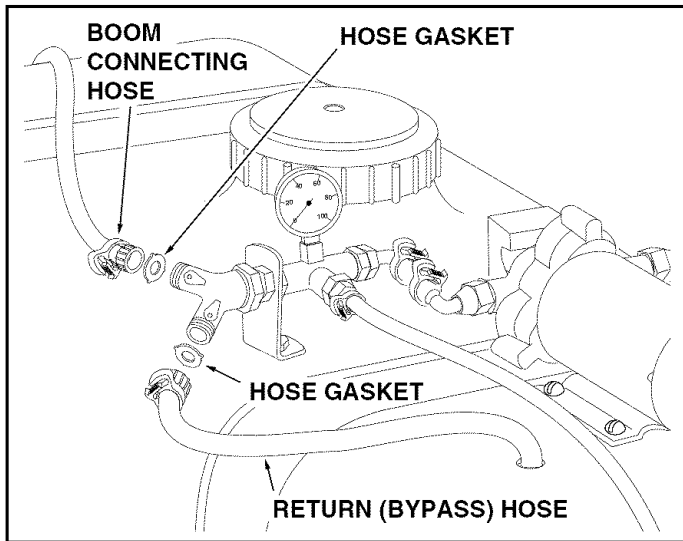

FIGURE 15
29. Connect the boom connecting hose and the return (bypass) hose to the "Y" valve fitting, placing a hose gasket in the swivel nut on each hose. Insert the return hose into the top of tank. See figure 15.